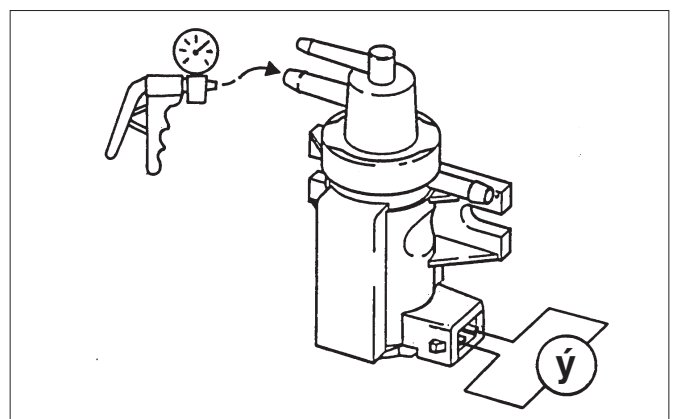

Fig. 8
#### Check EPW resistance, Fig. 8
- Measure resistance according to Fig. 8
#### Checking the function, fig. 8
- Connect manual vacuum pump according to fig. 8. It is used as a manometer. The other hose connections remain in place.